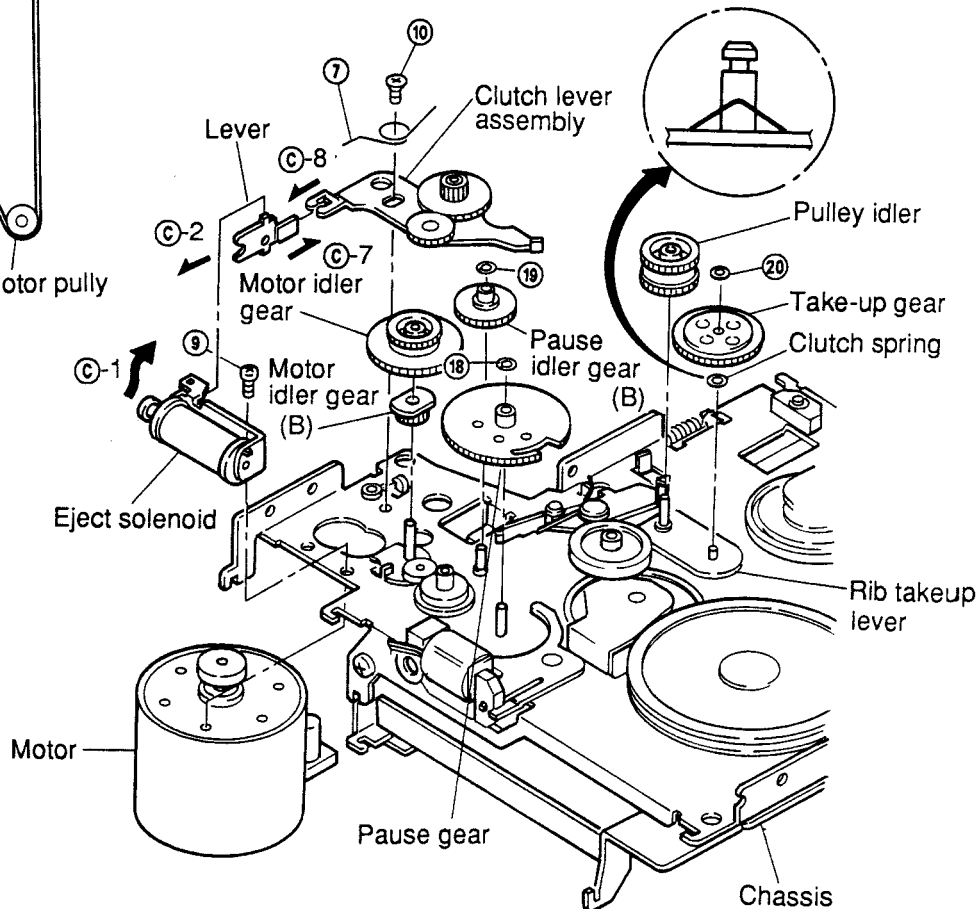
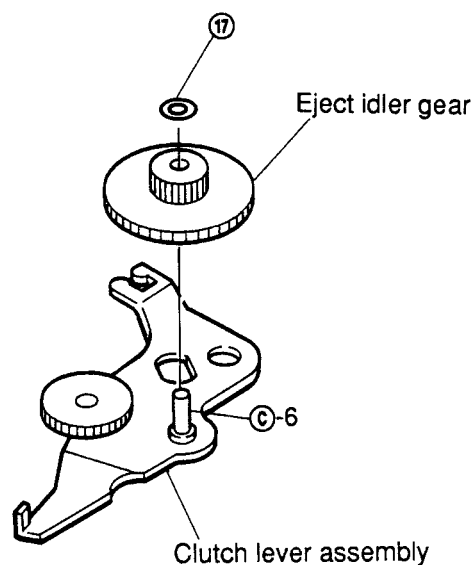

Figure 10
Figure 15
- (1) After removing the belt, remove spring ⑦ as shown in Figure 10.
- (3) Remove two screws ⑨ and ⑩, and remove the motor, taking care not to damage the motor idler gear. (Refer to Figure 10.)
- (4) Mount the new motor following the removal steps in the reverse order.
- (2) Remove screw ⑨ and remove the play solenoid as shown in Figure 10.
- (3) Align position ㉔-1 of the new solenoid with position ㉔-2 of the lever and fasten the screws as shown in Figure 10.
- (4) Lead the wire through the tube and solder it.
- (1) After removing the motor, remove the motor idler gear and the motor idler gear (B) and remove the clutch lever assembly as shown in Figure 10.
- (2) Remove M1.2 lock washer ⑰ and remove the eject idler gear as shown in Figure 15.
- (3) Mount the new gears and clutch lever following the removal steps in the reverse order.
Note: When mounting the gears to the lever, apply grease (FLOIL 425A) to the position ㉔-6 as shown in Figure 15. Align the position ㉔-7 with the position ㉔-8 and mount the clutch lever as shown in Figure 10.
- (1) Remove M1.2 lock washer ⑱ and remove the pause gear pulling it up from the stud of the chassis as shown in Figure 10.
- (2) Mount the new gear following the removal steps in the reverse order.
- (1) After removing the motor and the motor idler gear, remove M1.2 lock washer ⑲ and remove the gear by pulling it up from the stud of the chassis as shown in Figure 10.
- (2) Mount the new gear by following the removal steps in the reverse order.
- (1) After removing the belt and the pulley idler gear, remove M1.2 lock washer ⑳ by pulling it up from the stud of the rib take-up lever assembly as shown in Figure 10.
- (2) Remount the take-up gear following the removal steps in the reverse order.